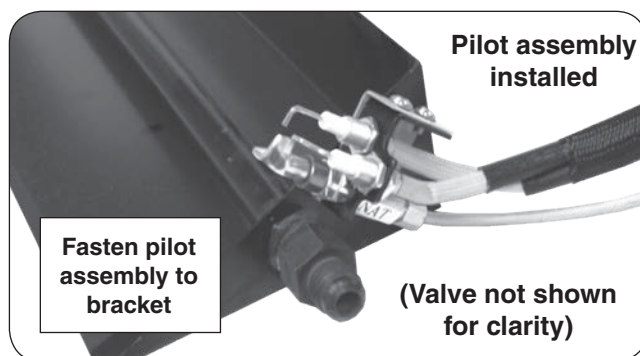

Fig. 8-2 Install pilot assembly
1. Using the two (2) remaining screws, mount the pilot assembly onto the bracket (from below) and tighten until snug (Fig. 8-2). **Check to be certain the pilot hood and probes are situated above the edge of the pan. Adjust if necessary.**